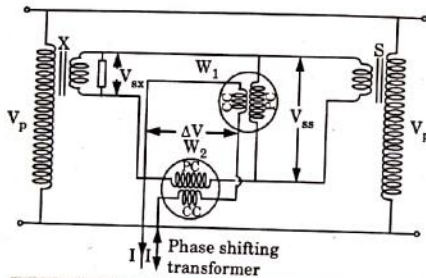

Fig. 3.22.1. Comparison method using wattmeters.
1. This method is analogous to Silsbee's deflectional comparison method for current transformers. The arrangement is shown in Fig. 3.22.1.